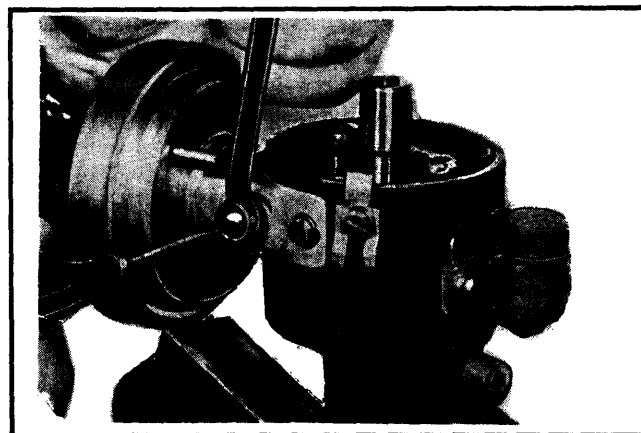

Fig. 5 Adjusting Maximum Vacuum Retard (Eccentric Location)
2) Most types of vacuum diaphragm units are factory pre-set and cannot be adjusted. However, on some dual diaphragm units, the maximum vacuum retard setting may be raised or lowered if necessary by turning an eccentric, located at side of vacuum unit. See Fig. 5.